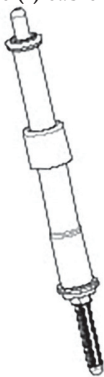

Figure 2. Pushrod Installed into Pushrod Cover
5. See Figure 2 and Figure 3. Install the intake pushrods into the pushrod covers. Replace O-rings, lower pushrod cover and spring cover keeper with new components supplied in kit. Be sure adjuster end of pushrod is down.